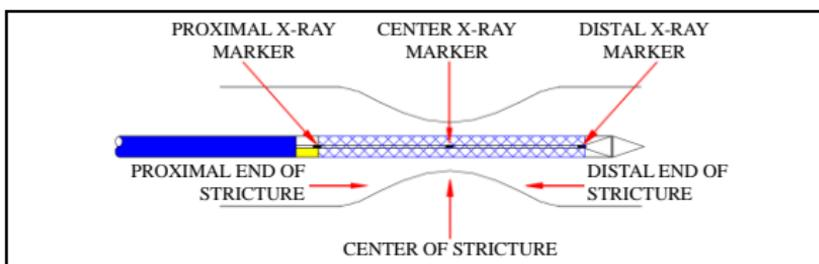

Figure 4
- When the center X-ray marker reaches the center of target stricture, continue pulling back on the connector until the stent is fully deployed. (See figure 4, 5)
- When the center X-ray marker reaches the center of target stricture, continue forwarding toward the connector until the stent is fully deployed. (See figure 4, 6)